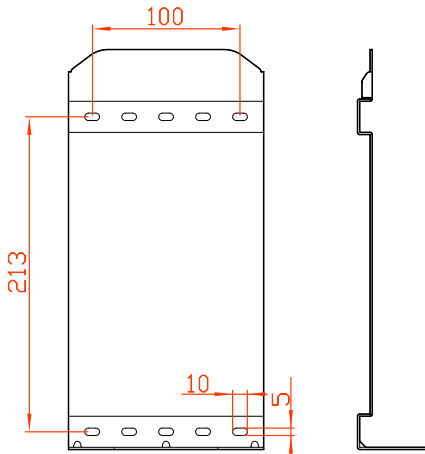
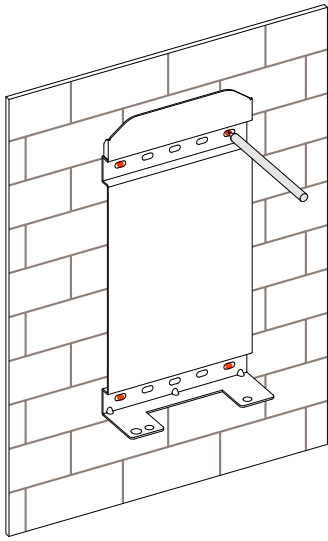

Figure3-6 Optimized installation size (unit: mm)
Figure3-7 Mark the drilling position
Step 2 Mark the position of installation holes on the wall according to the dimensions of the fixing holes of the installation holder (as shown in Figure3-6), and drill 4 holes of  $\Phi 8.5\text{mm}$  on the wall according to marked position, as shown in Figure3-7